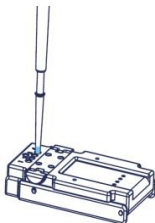

Figure 6-2: Load samples using MGIDL-200H
- ① Each lane requires 30 μL of DNB loading mix.
- ② Before DNB loading, clean the device as described in the MGIDL-200H Quick Start Guide.
- ③ Install the sealing gasket and flow cell. Aspirate 30 μL DNB loading mix with a pipette and insert the wide bore tip into the fluidics inlet (see Figure 6-2). Do not press the control button of the pipette after inserting the tip into the fluidics inlet. Eject the tip from the pipette and the DNB loading mix will automatically flow into the flow cell.
- ④ After DNB loading, rotate the tips counterclockwise to remove them. Place the device on the bench with the front upward for 30 min before use.